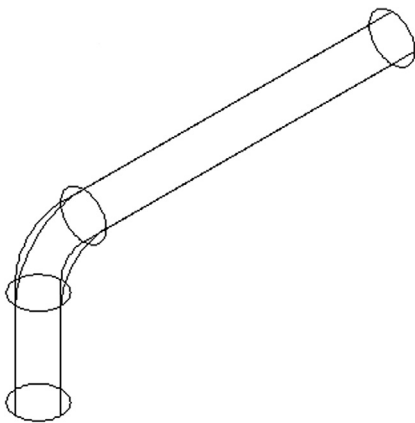

FIGURE 24.37
Step 4. Click to select the path itself. You see what is shown in Figure 24.37, in wireframe.